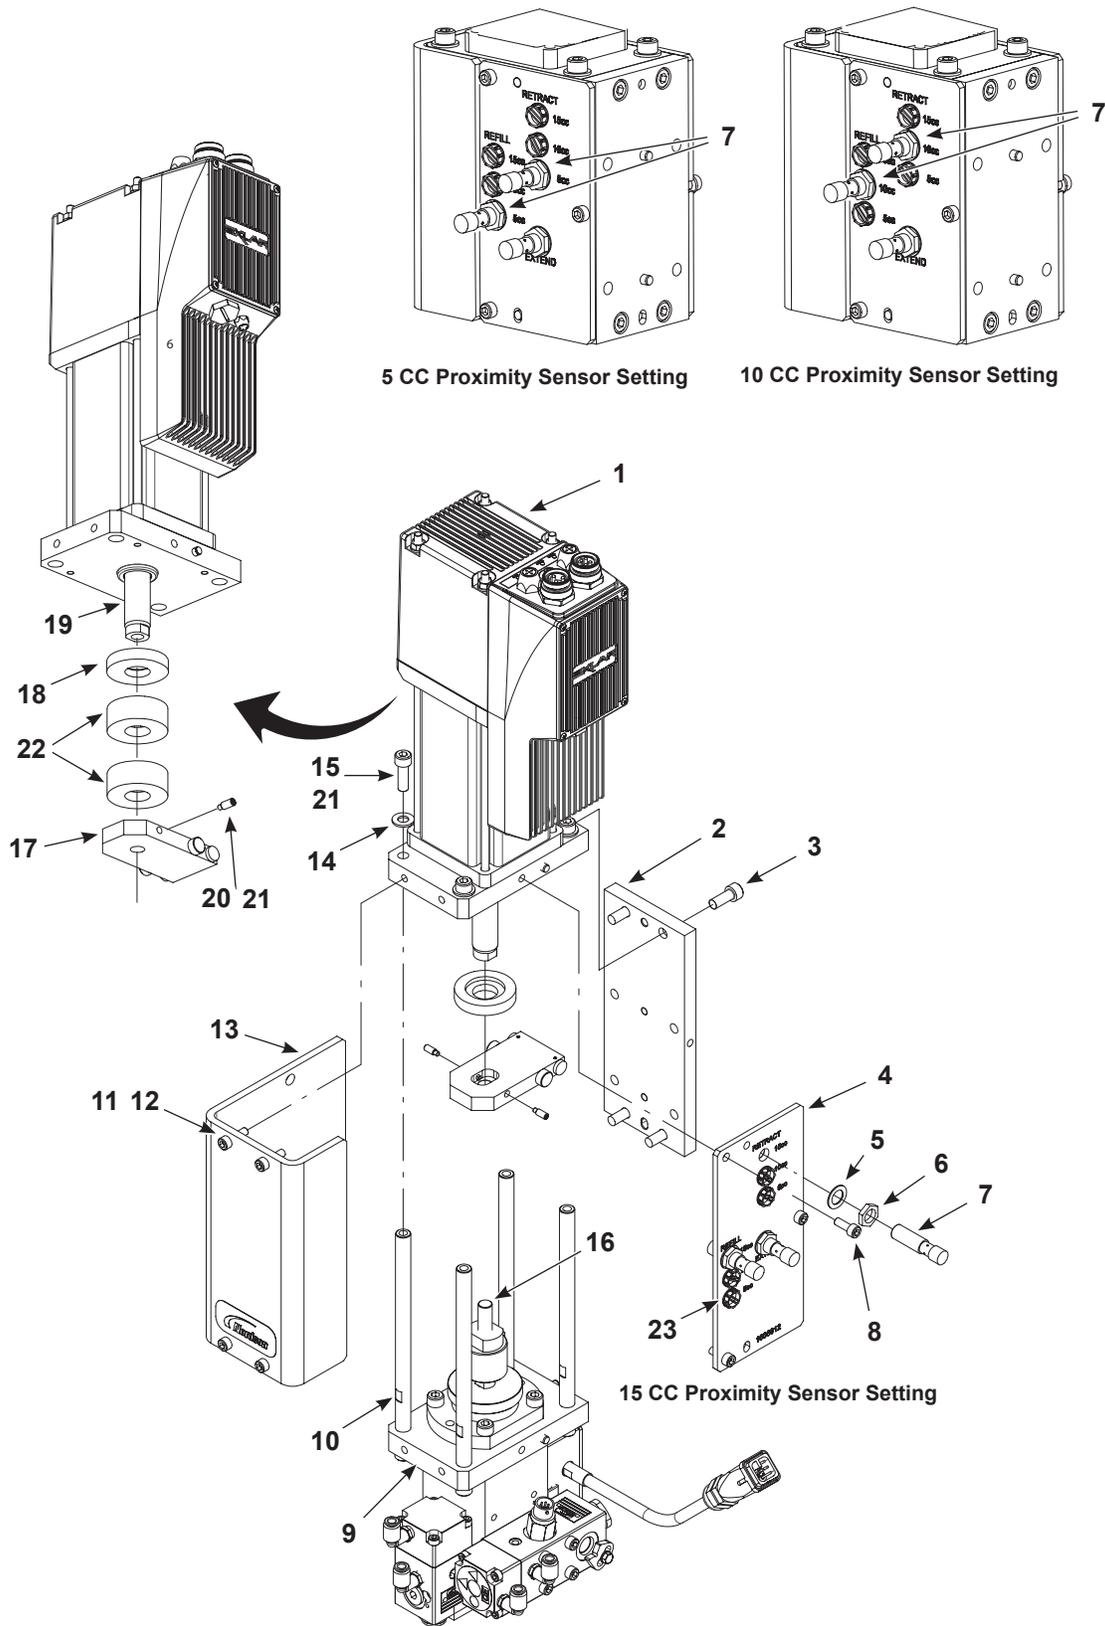
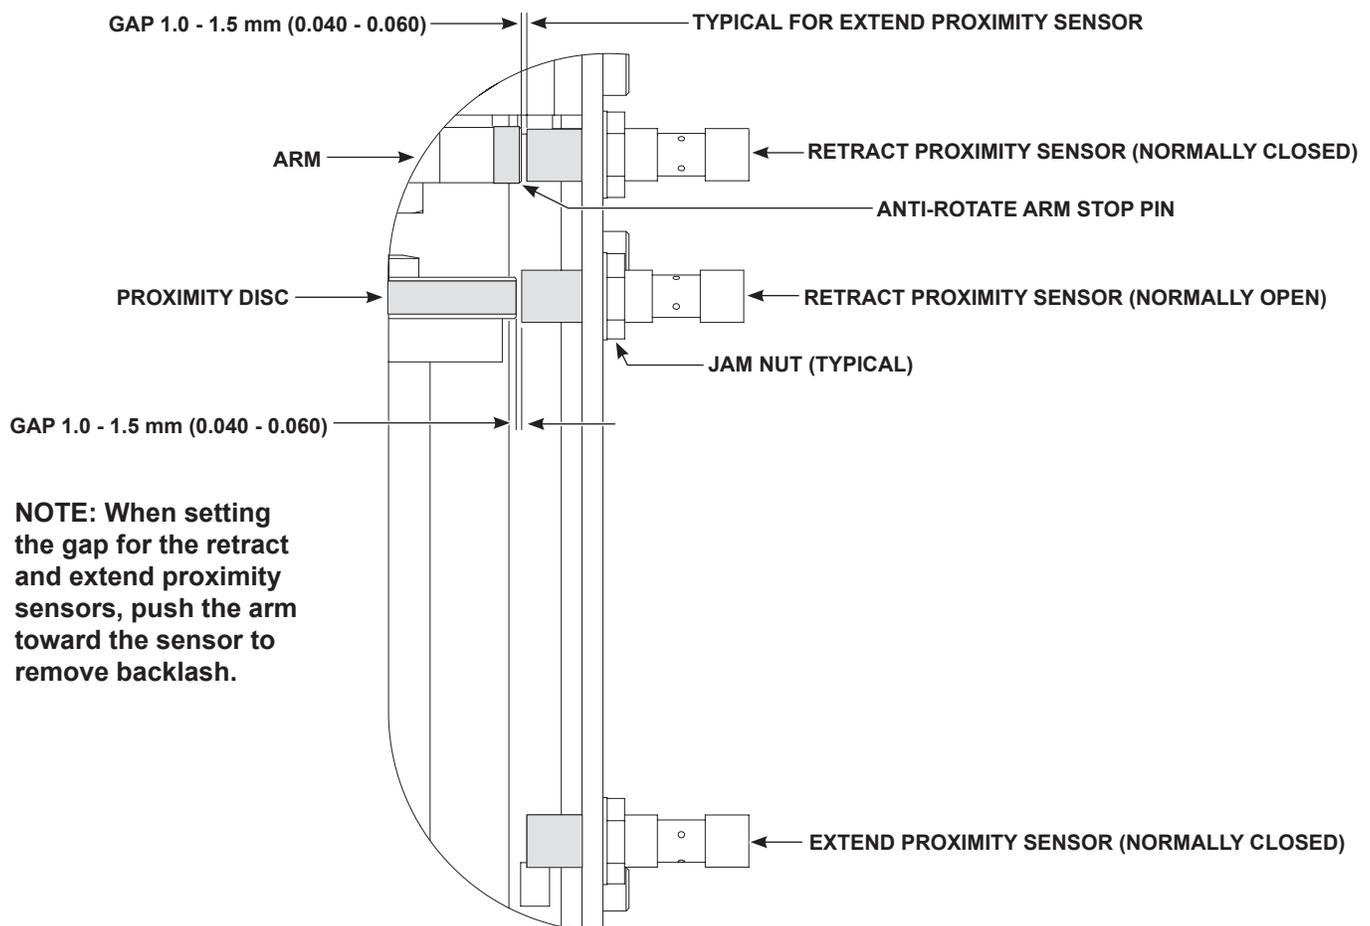

Figure 15 Linear Actuator and Proximity Sensor Repairs
Figure 16 Proximity Sensor Adjustment
See Figure 15 and use the following procedure to replace the linear actuator.
1. See Figure 15. Make sure that the linear actuator (1) is in the extend position to expose the shaft (19).
2. Remove the screws (11) and washers (12) securing the shroud (13) to the linear actuator (1) and housing flange (9).
3. Remove the coupling (16) from the anti-rotate arm (17). Loosen the set screws (20) and remove the anti-rotate arm from the shaft (19).
4. Make sure that there is an O-ring installed in each aluminum spacer (22). Install the aluminum spacers onto the shaft (19):
- a. Install the anti-rotate arm (17) onto the shaft (19) in the orientation shown. Thread the coupling (16) into the shaft. Tighten the coupling finger tight.
- b. Apply Loctite 242 (21) to the threads of the set screws (20). Install the set screws into the anti-rotate arm (17). Tighten the set screws finger tight.
- c. Tighten the coupling (16) to 13.5 N•m (10 ft-lb). Tighten the set screws (20) to 4 N•m (35 in.-lb).
6. Reset each proximity sensor (7):
1. See Figure 15. Disconnect the cable from the proximity sensor (7).
2. Remove the screws (11) and lock washers (12) securing the shroud (13) to the linear actuator (1) and housing flange (9).
3. Loosen the jam nut (6). Remove the proximity sensor (7), jam nut (6), and lock washer (5) from the proximity plate (4).
4. Install the jam nut (6) and lock washer (5) onto the new proximity sensor (7).
1. See Figure 16. Extend or retract the linear actuator until the anti-rotate arm stop pin is directly behind the sensor.
5. See Figure 15. Install the shroud (13) to the linear actuator (1) and housing flange (9) using the washers (12) and screws (11). Tighten the screws securely.
1. See Figure 16. Extend the plunger assembly until the proximity disc is directly behind the proximity sensor.
3. Connect the cable to the proximity sensor (7).
4. See Figure 15. Install the shroud (13) to the linear actuator (1) and housing flange (9) using the washers (12) and screws (11). Tighten the screws securely.